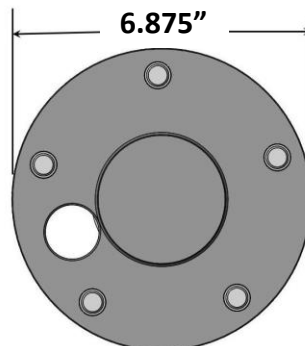

Figure 1 – Measuring the Axle Flange
4. The outer diameter of the axle flange can be no larger than 6.875" in outside diameter. This is critical for proper fitment of the rotor over the axle flange. For axles with a flange larger than 6.875", using a lathe, machine the outer flange down to the necessary diameter of 6.875". See Figure 1 below for measuring reference.